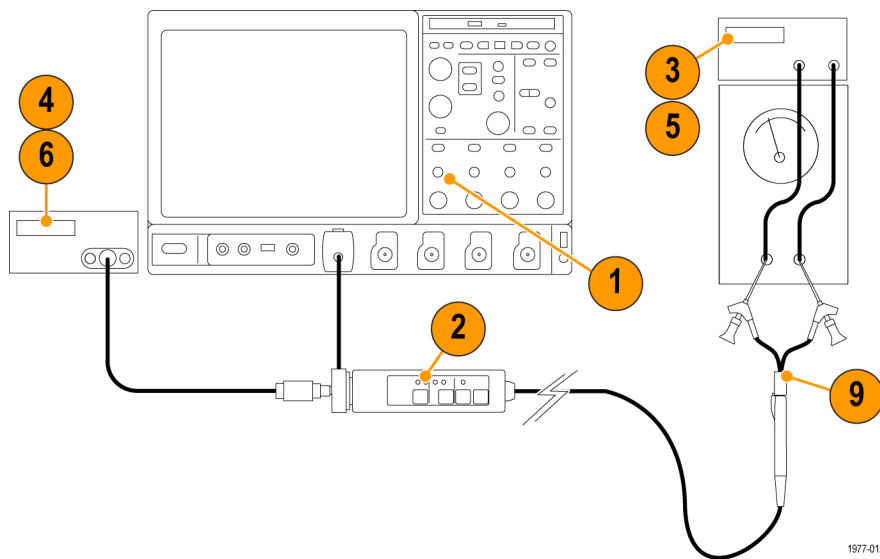

Figure 14: Differential signal range test
3. Set the input voltage on the DC source to 0 V, and verify that it is 0 V with the multimeter. (See Figure 14.)